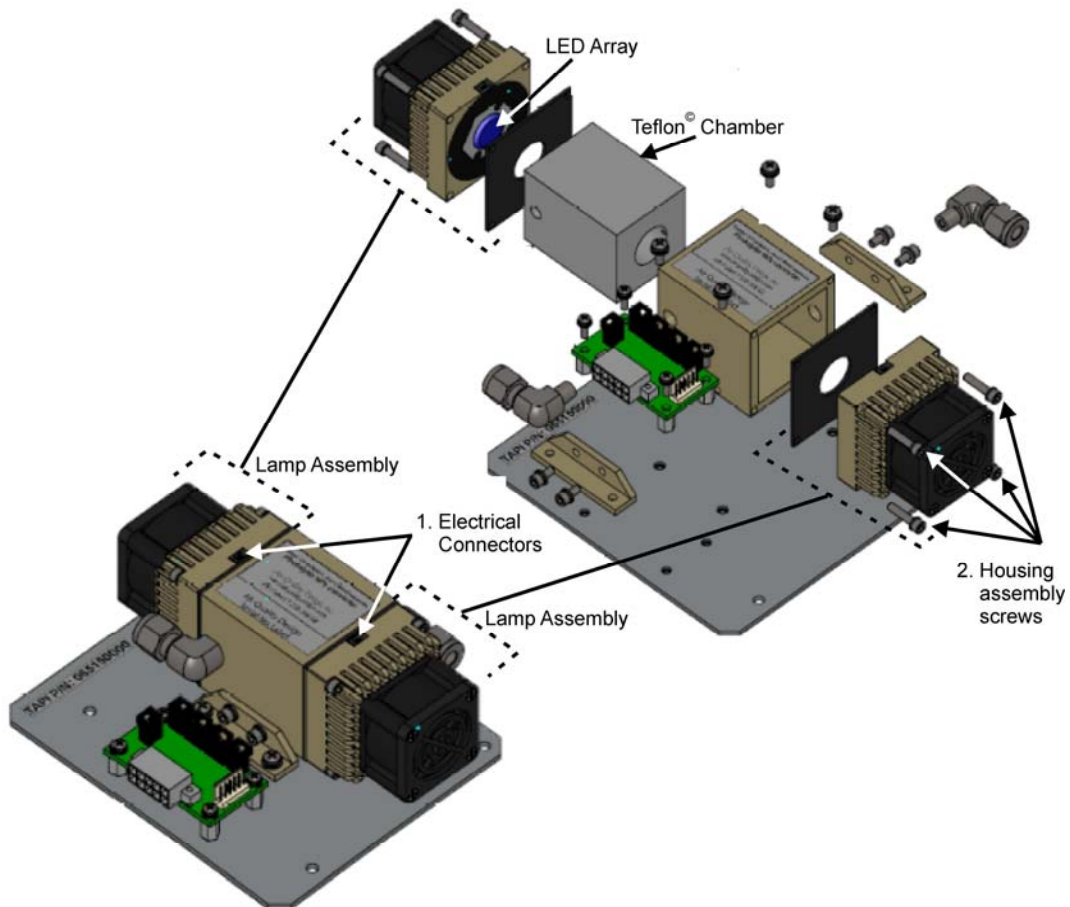

Figure 6-1. Photolytic Lamp Assembly Replacement
- a. Gently disconnect the electrical connectors (they are delicate) between the housing and each lamp assembly (Figure 6-1).